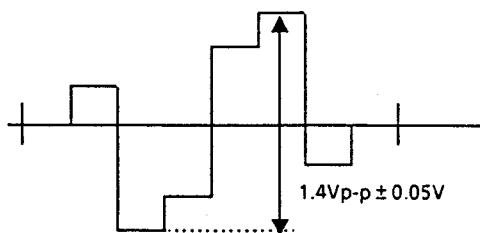

Fig. 4-15
- Keep the connection for step (12).
- Adjust VR9 so that the R - Y signal level becomes $1.4V_{p-p} \pm 0.05V_{p-p}$. (Fig. 4-15)